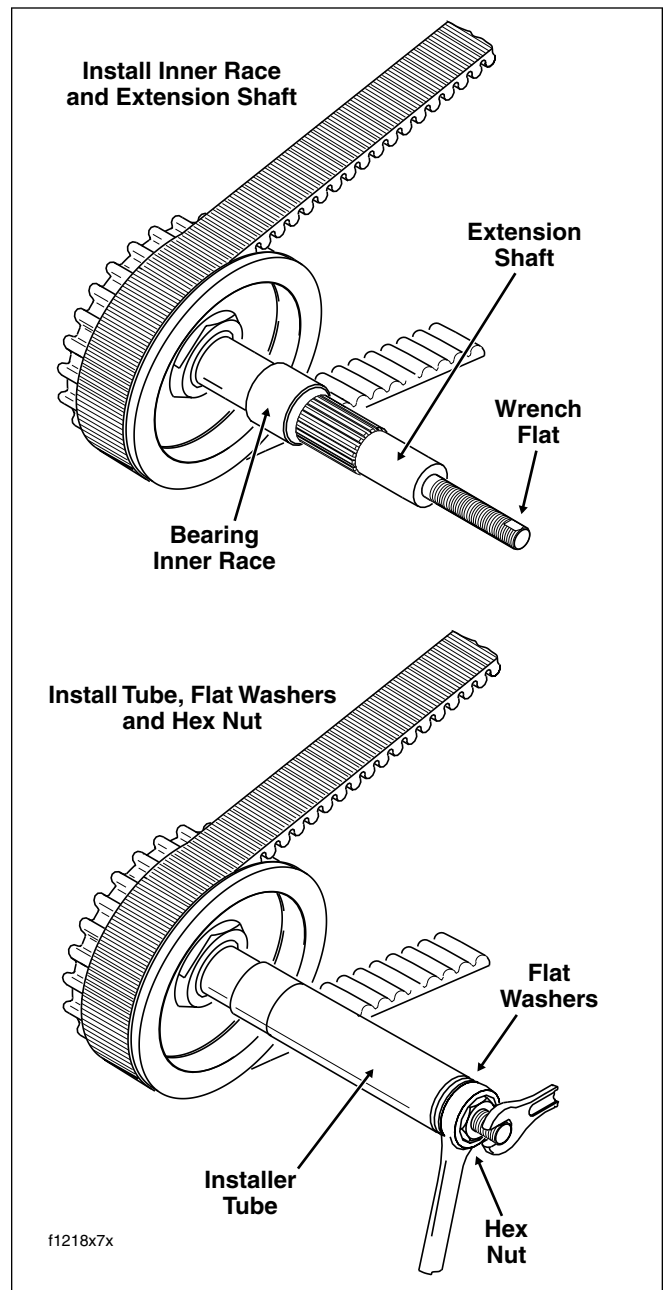

Figure 6-25. Press Bearing Inner Race onto Mainshaft
2. Thread extension shaft onto end of mainshaft. See upper frame of Figure 6-25.
4. Place both large flat washers over threaded portion of extension shaft until they contact installer tube. Install large hex nut onto extension shaft. See lower frame of Figure 6-25.